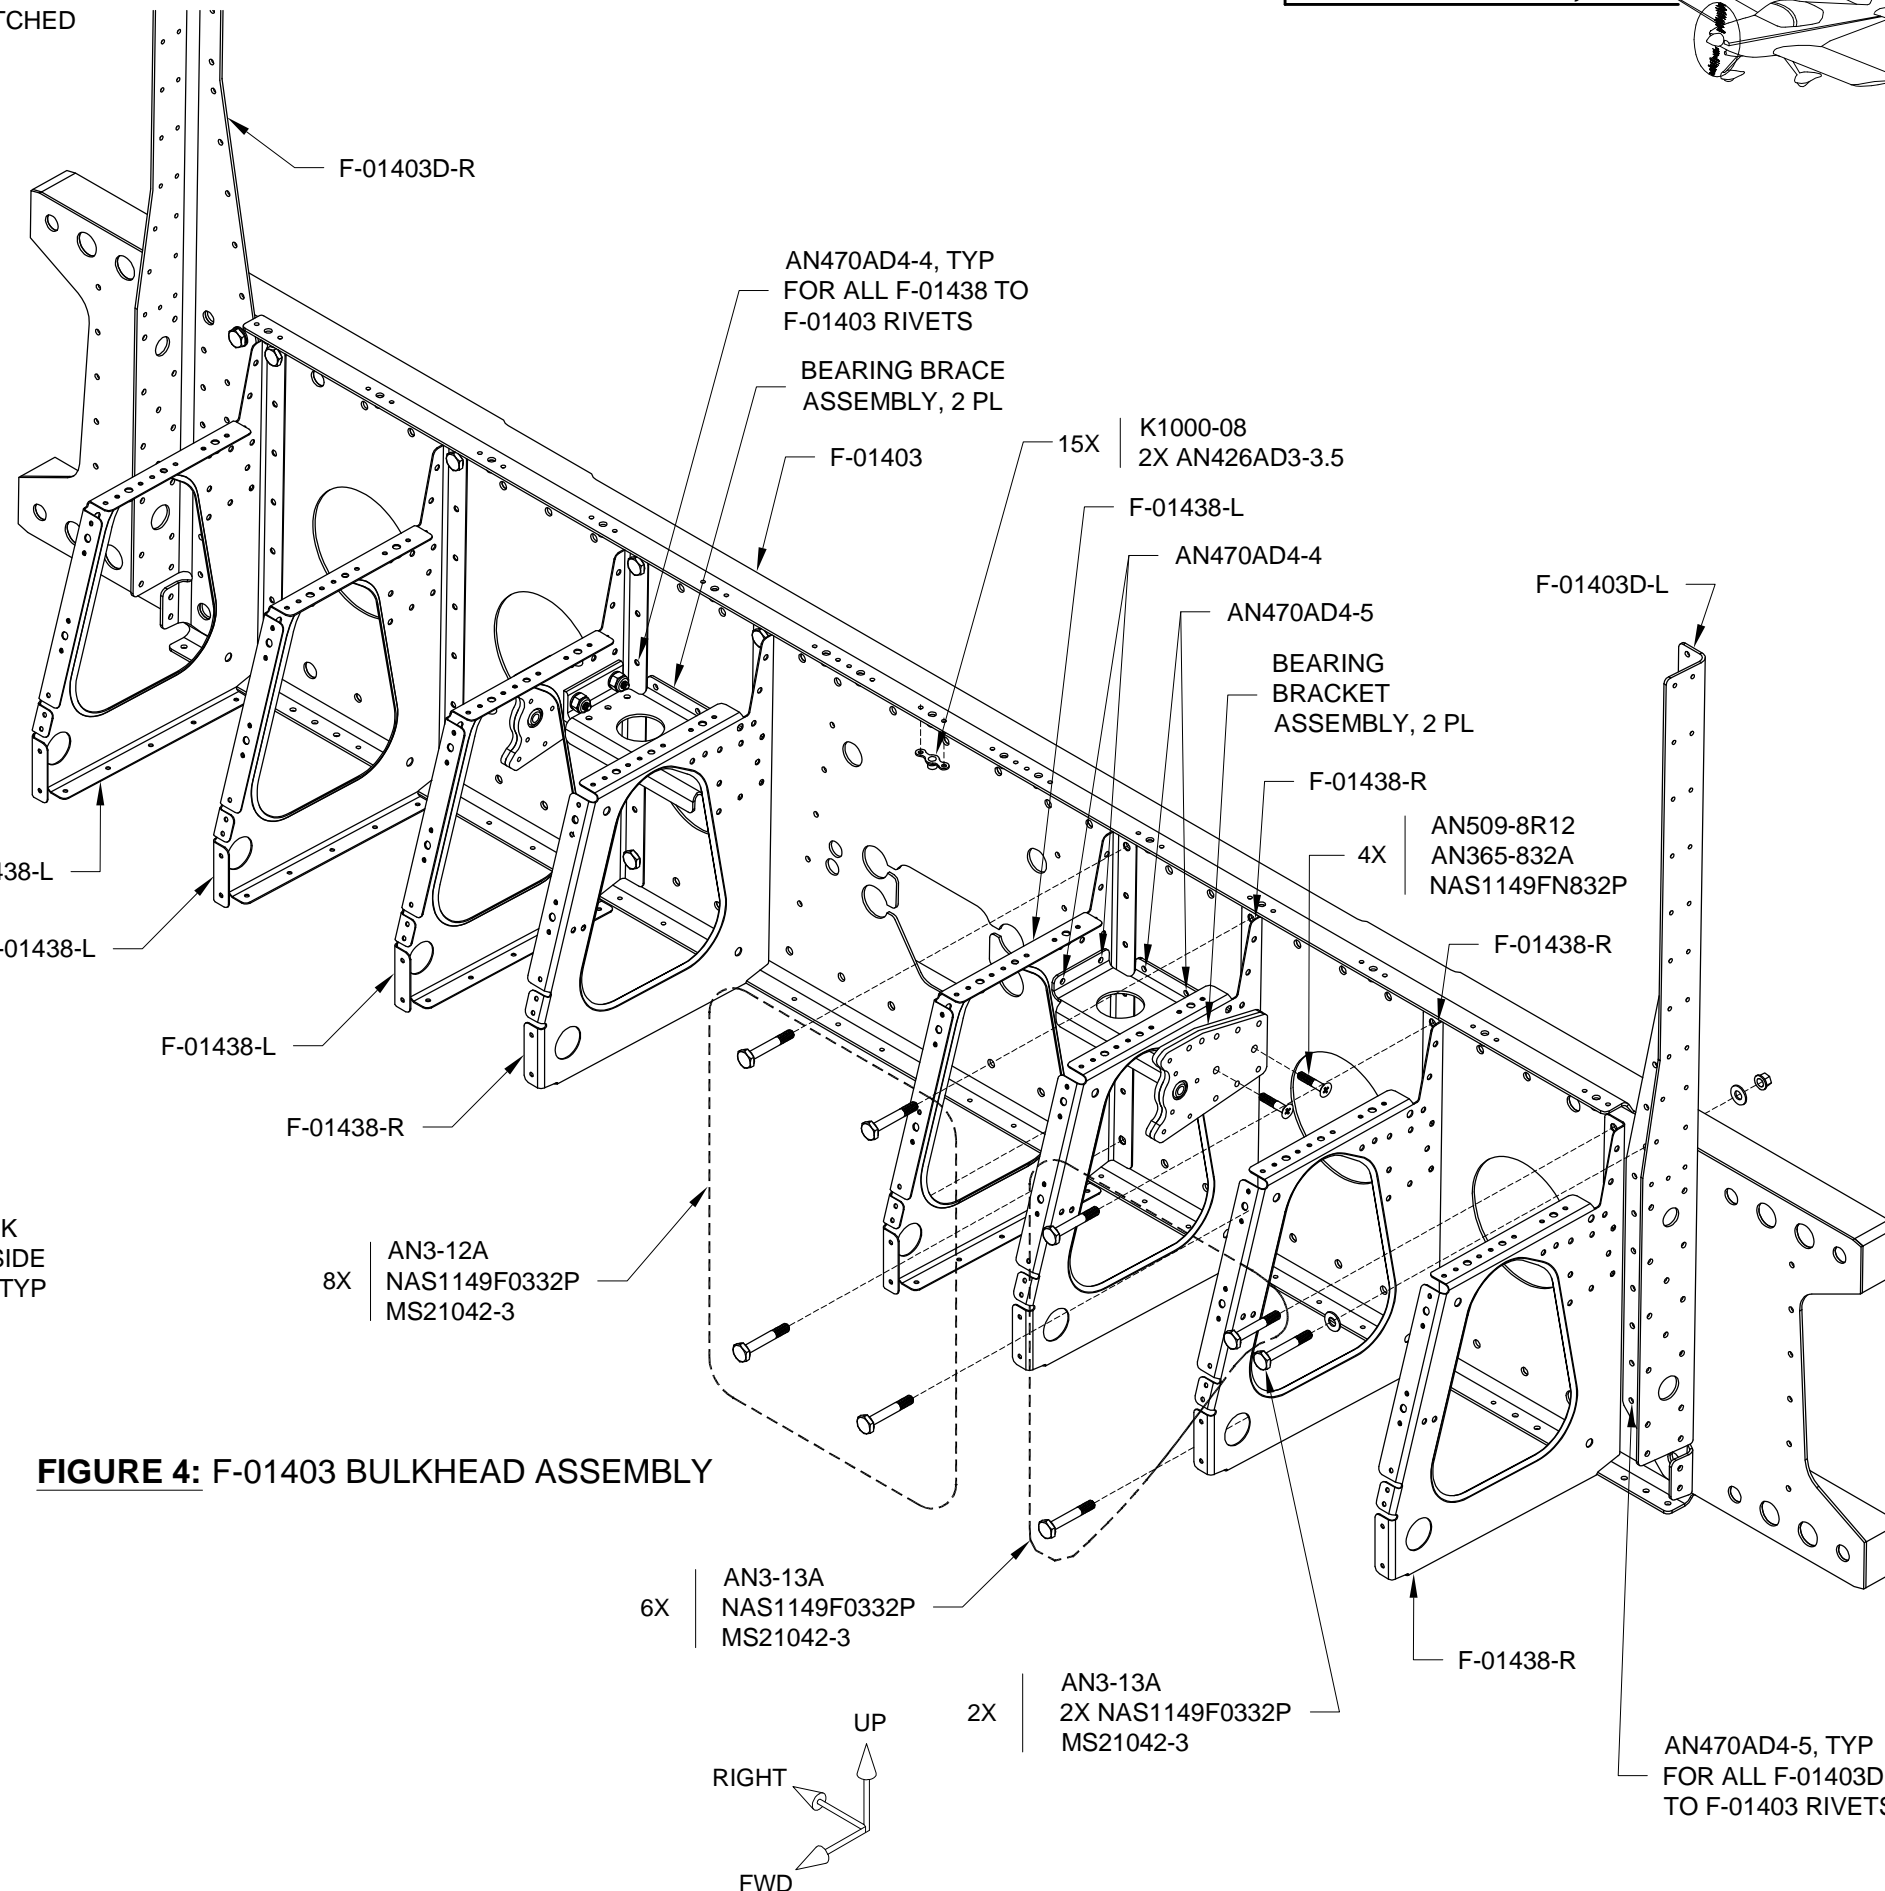

FIGURE 4: F-01403 BULKHEAD ASSEMBLY
Step 6: Rivet the nutplates to the top flange of the F-01403 Forward Center Section Bulkhead as shown in Figure 4.
Step 7: Bolt, cleco and rivet the F-01403D-L Forward Center Section Side Angle to the F-01403 Forward Center Section Bulkhead as shown in Figure 4. See section 5.20 for bolt torque values.
Step 8: Bolt, cleco and rivet the F-01438-L & -R Cover Ribs to the F-01403 Forward Center Section Bulkhead. See Figure 4. See Section 5.20 for bolt torque values. Position the manufactured head of the rivets on the forward side of the bulkhead.
Step 9: Attach the Bearing Brace Assembly to the Bearing Bracket Assembly using the structural screws shown in Figure 4.